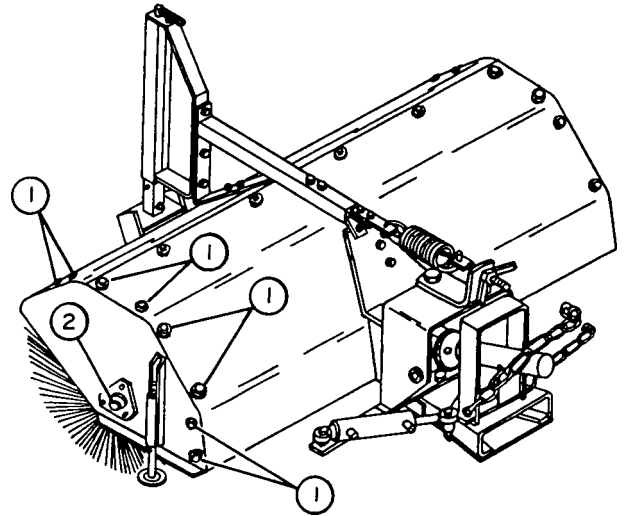
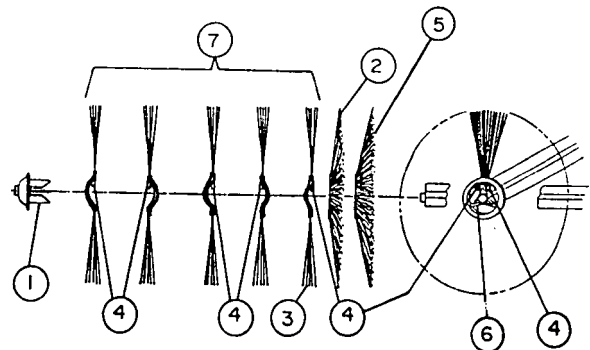

FIGURE 1
FIGURE 2
- a) Remove the eight 5/16" x 1/2" bolts (fig.1, item 1), one 1/2" x 1 3/4" bolt (fig.1, item 2) from each broom end and remove broom side plates and retainer cup (fig.2, item 1).
- c) Install new brushes, starting with a 10° concave brush (fig.2, item 5) the a 5° concave brush (fig.2, item 2) and then the zigzag brushes (fig.2, item 7) on each side of gearbox.
**NOTICE** The pins (fig.2, item 4) in zigzag brushes must all be placed on the same brush support cone (fig.2, item 6).
- d) Position retainer cups (fig.2, item 1) on inside surface of side plates with the 1/2" x 1 3/4" bolts (fig.1, item 2)(bolts must have lockwasher against head and two flatwashers under the lockwasher). Thread bolts into shaft ends, aligning side plate holes with broom housing holes. Apply anti-seize compound on 1/2" x 1 3/4" bolts and on shaft ends. Tighten securely.
- e) Reinstall the eight 5/16" x 1/2" bolts (fig.1, item 1) into side plates on each side of broom. Tighten securely.